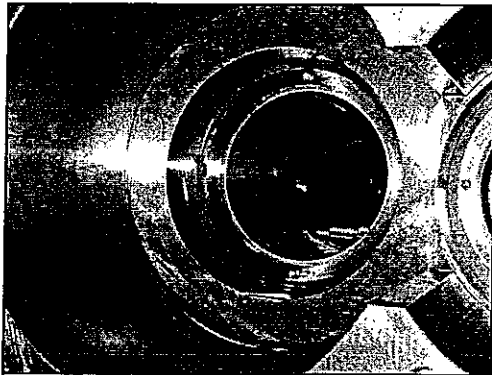

Fig. 3-1
- (2) Install the discharge side Journal Bearings (C03) (C04) to Discharge Casing (B03) adjusting pin position. See "Assembling and Dismantling of MD-FD Bearing". Refer to Fig. 3-1.
- (3) Set the Valve Guide (B10) to Rotor Casing (B02) and drive the dowel pin.